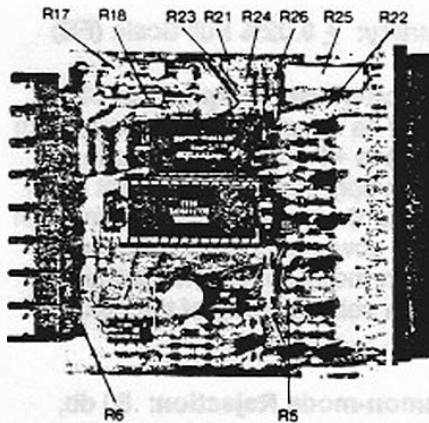

Figure 4. Component Location
2. Observe resistor values for R17 & R18; compare to fig. 4 and table I below. Install resistors of values specified in table I to obtain desired range.